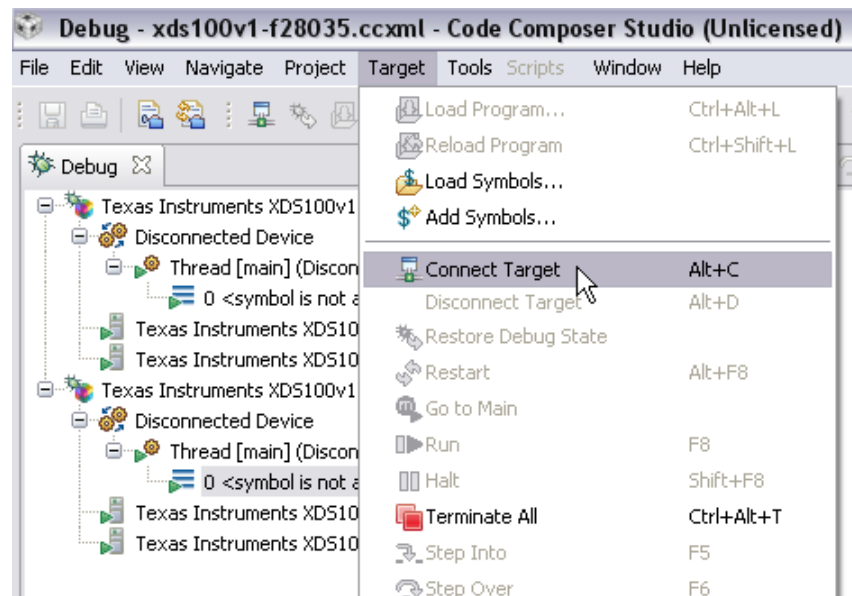

Figure 6. CCS Connect Target
10. Click "Target -> Connect Target" (see Figure 6).